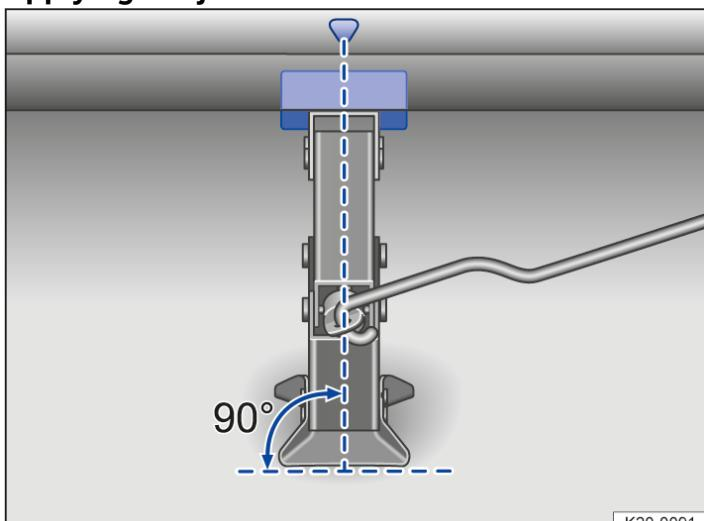
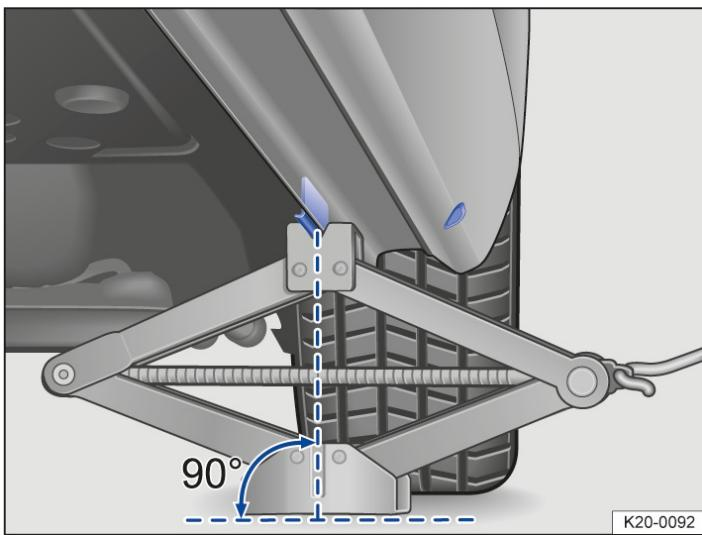

Fig. 2 Correct alignment of the jack.
Fig. 3 Scissors jack applied at the rear on the left-side of the vehicle.
10. Make sure that the entire surface of the foot of the jack is resting securely on the ground and that the foot of the jack is positioned vertically directly beneath the jacking point → *Fig. 2* and → *Fig. 3*.
11. Position the jack and simultaneously continue to crank the claw up until it is in position around the jacking point underneath the vehicle → *Fig. 3*.
- Apply the jack only at the points described. The jack claw must grip the vertical rib under the side member securely → *Fig. 3*.